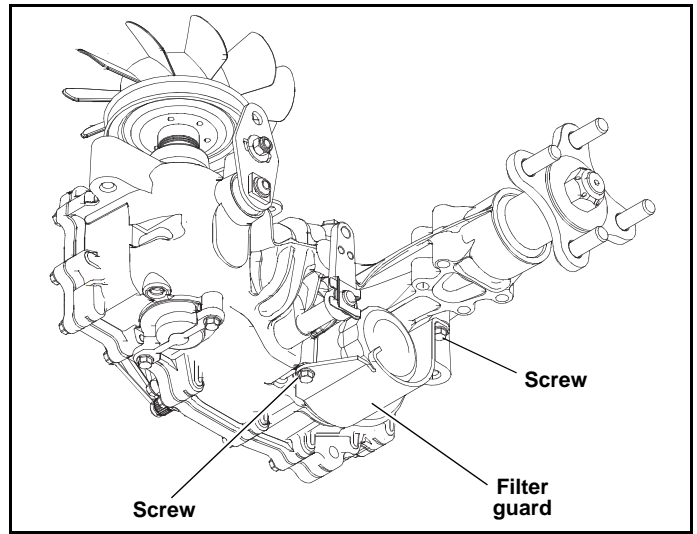

Figure 4-9
2. Remove the three 1/4" filter guard screws and filter guard. Clean any loose debris from around the filter Figure 4-9
6. Re-install the filter guard with three 1/4" screws. Torque the screws to 65 in.-lbs. each. Figure 4-9